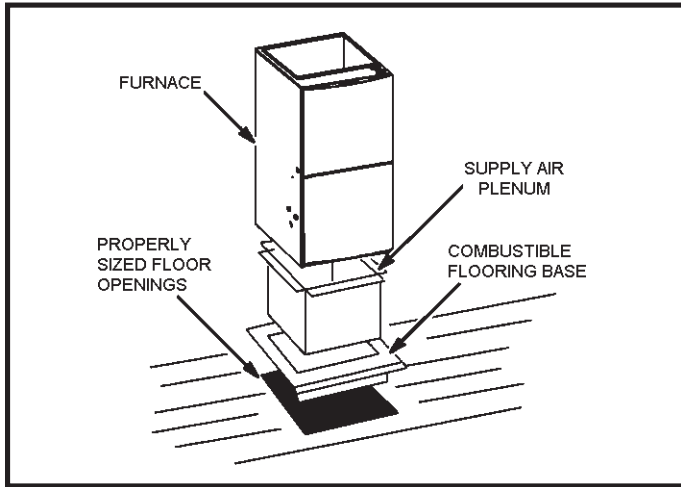

Figure 12
**Installation on Combustible Flooring (Figure 12)**